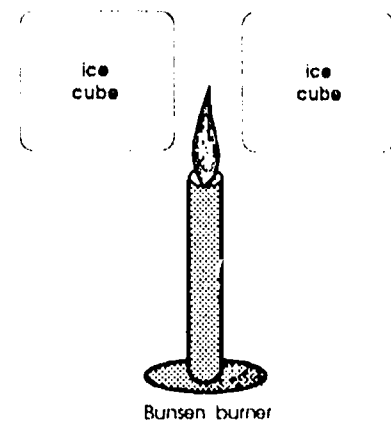

Figure 1. Position two ice cubes near a heat source until they begin to melt.
2. Position a match or other heat source between the two ice cubes (see Figure 1).